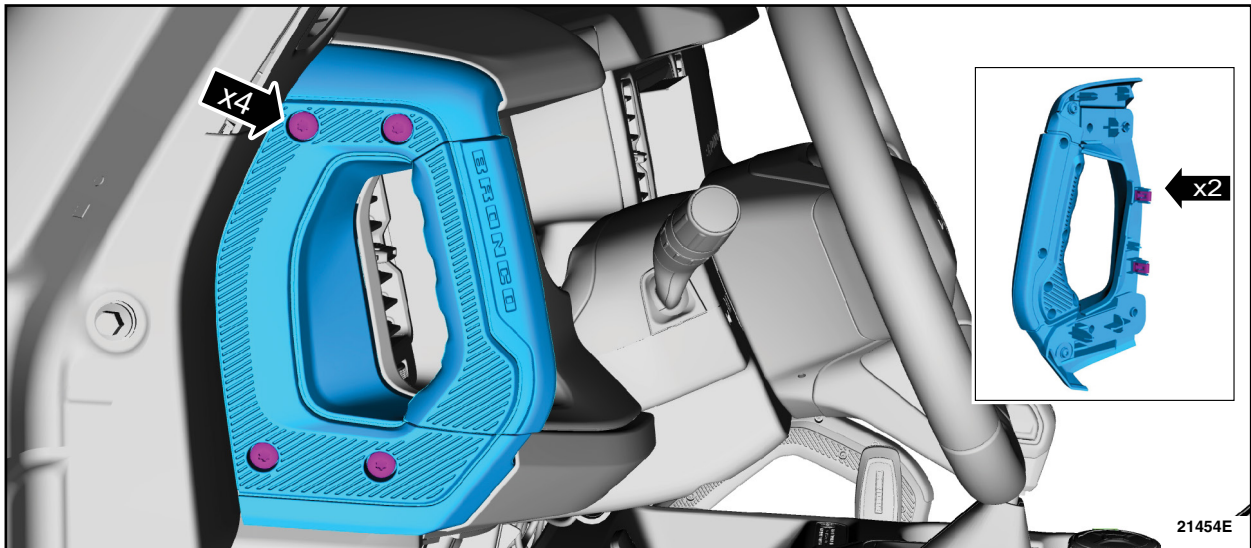

FIGURE 5
6. On both sides remove the screws, release the clips and remove the assist handles. See Figure 5.